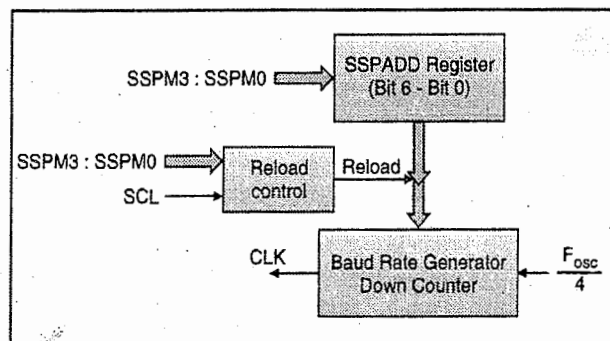

Fig. 12.10.6: Block diagram of baud rate generator
- Fig. 12.10.6 shows the block diagram of baud rate generator.